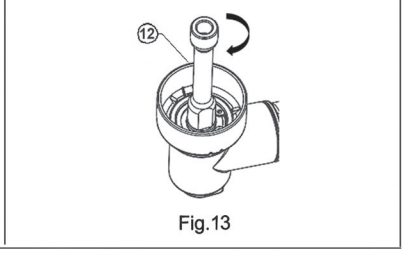

Fig. 13
Push the shaft-locking button (6) (Fig. 1) and screw the extension on a tool shaft (Fig.13).